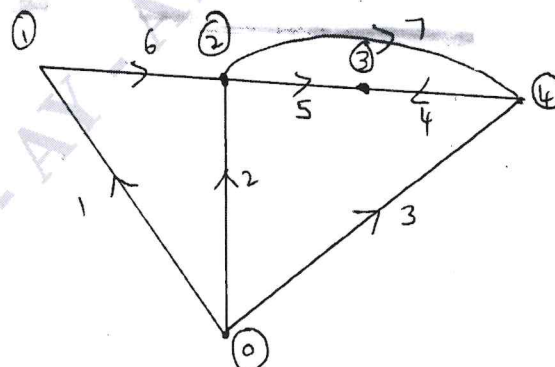

Fig Q2(b)
- b. Refer to the following oriented graph shown below in Fig Q2(b). Build basic cut set incidence matrix and branch path incidences matrix.